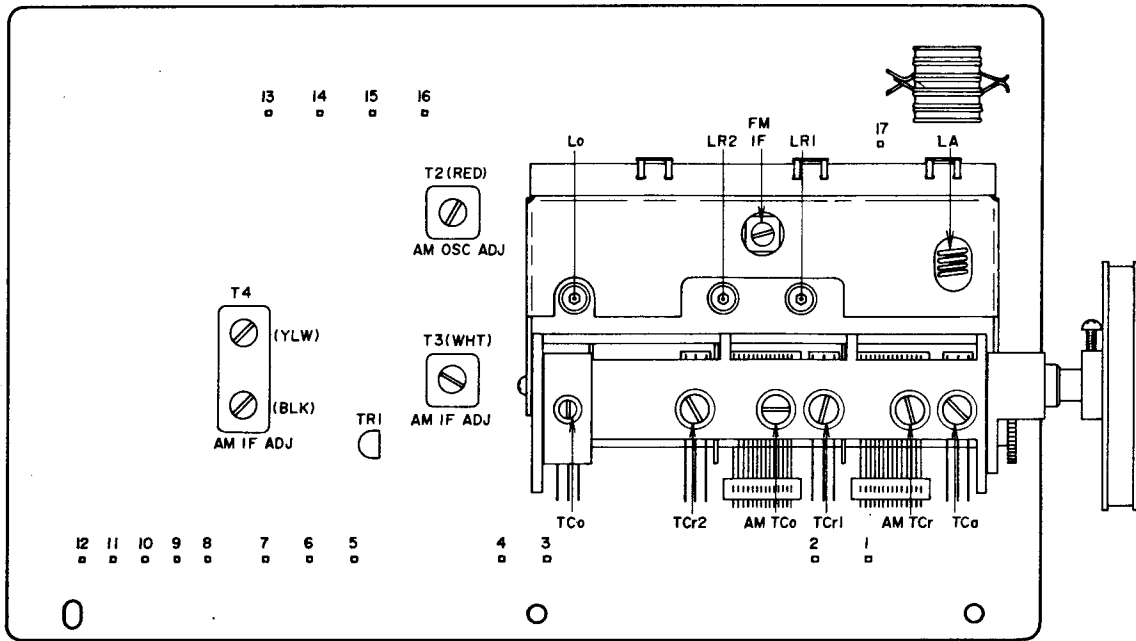

Fig. 14 Front End P.C Board T2-5421
1. FM TUNER SECTION ADJUSTMENT (Refer to Fig. 14 and 15)